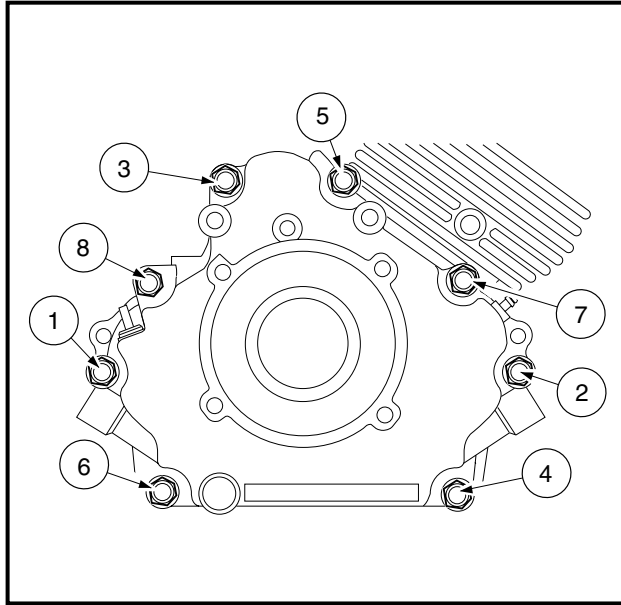

Figure 13-107 Crankcase Cover Installation
3. Install and finger tighten evenly the eight cover mounting bolts (**Figure 13-107, Page 13-49**).